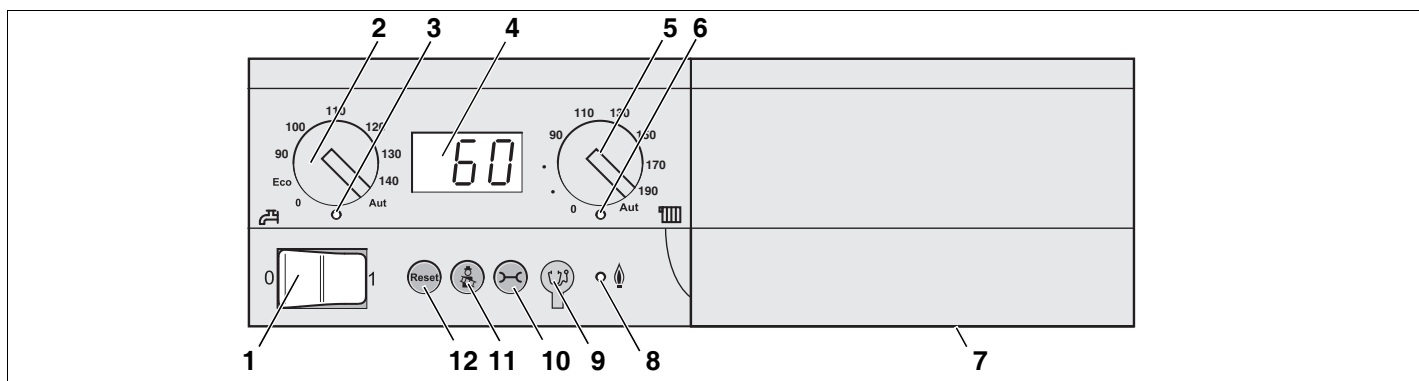

fig. 2 Basic Controller Logamatic BC10
The basic controller BC10 (see fig. 2) is located on the left side in the drawer.
The menu structure of the boiler can be viewed on the BC10 using the "Reset" (⊞), "Chimney sweep" (🔧) and "Service" (⚙️) (see fig. 2, pos. 9, 10 and 11) buttons and the display indication (see fig. 2, pos. 4).
A display value or code is shown on the display of the BC 10 basic controller (see page 8, fig. 2).
If the display code is a fault code, this fault code either flashes (locked fault code) in the display or it is shown permanently (blocking fault code). A boiler reset is only necessary with a locking fault code (flashing) (see 8, fig. 2). The cause of the fault must be remedied first. The cause has to be remedied and the boiler resumes regular operation.